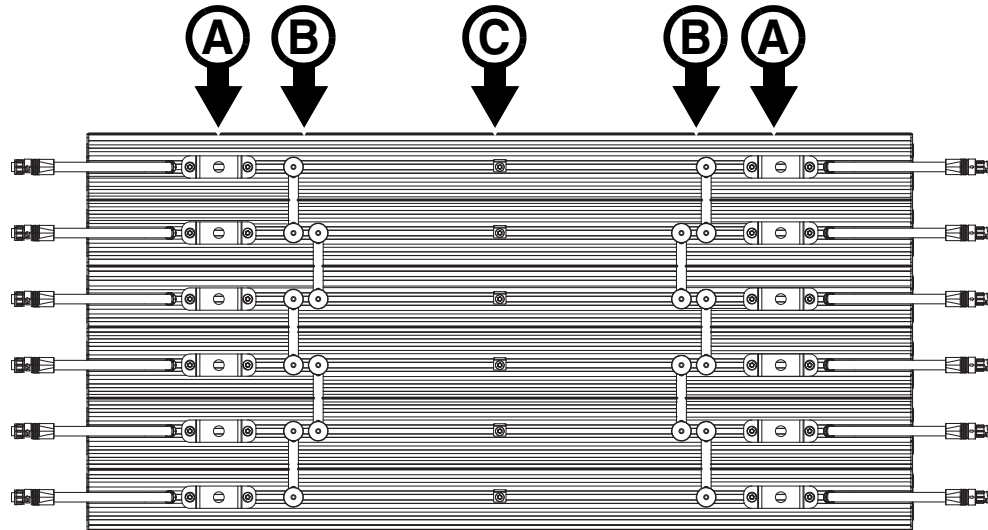

Figure 13: An array of 1000 mm fixtures with parallel couplers
1. See Figure 13. You will need to install the following items on each fixture:
2. To install these items, pass the captive nuts or bolt heads on the items through the cutout and into the channel on the back of the VDO Fatron in the correct order so that the items are located as shown in Figure 13. Locate the safety cable attachment bracket **C** close to the center of the fixture and locate the sliding brackets **A** close to the cable tails at the ends of the fixture.